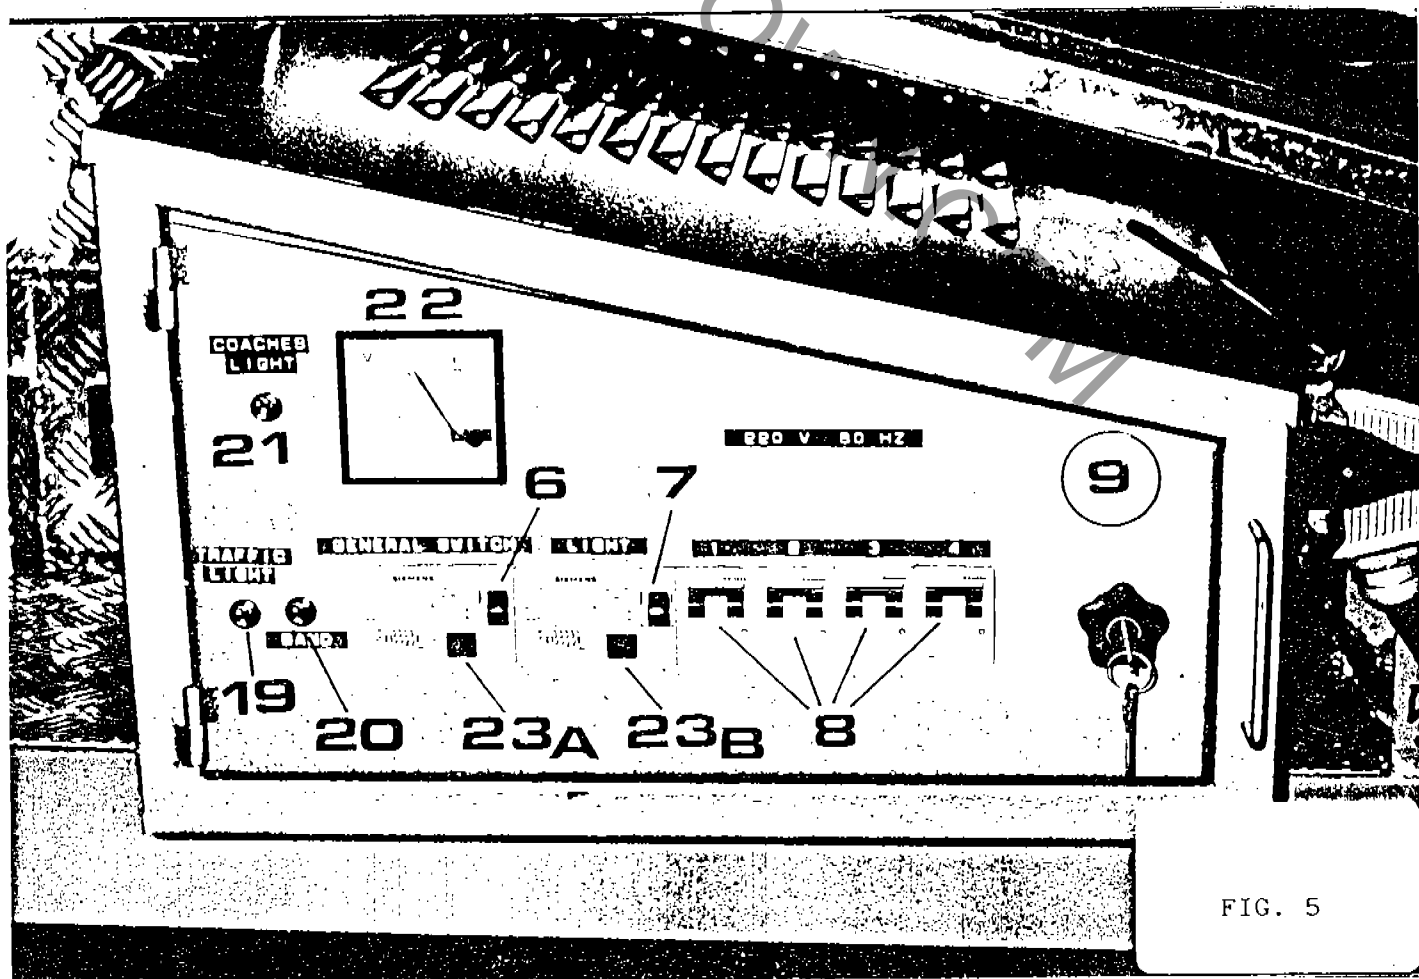
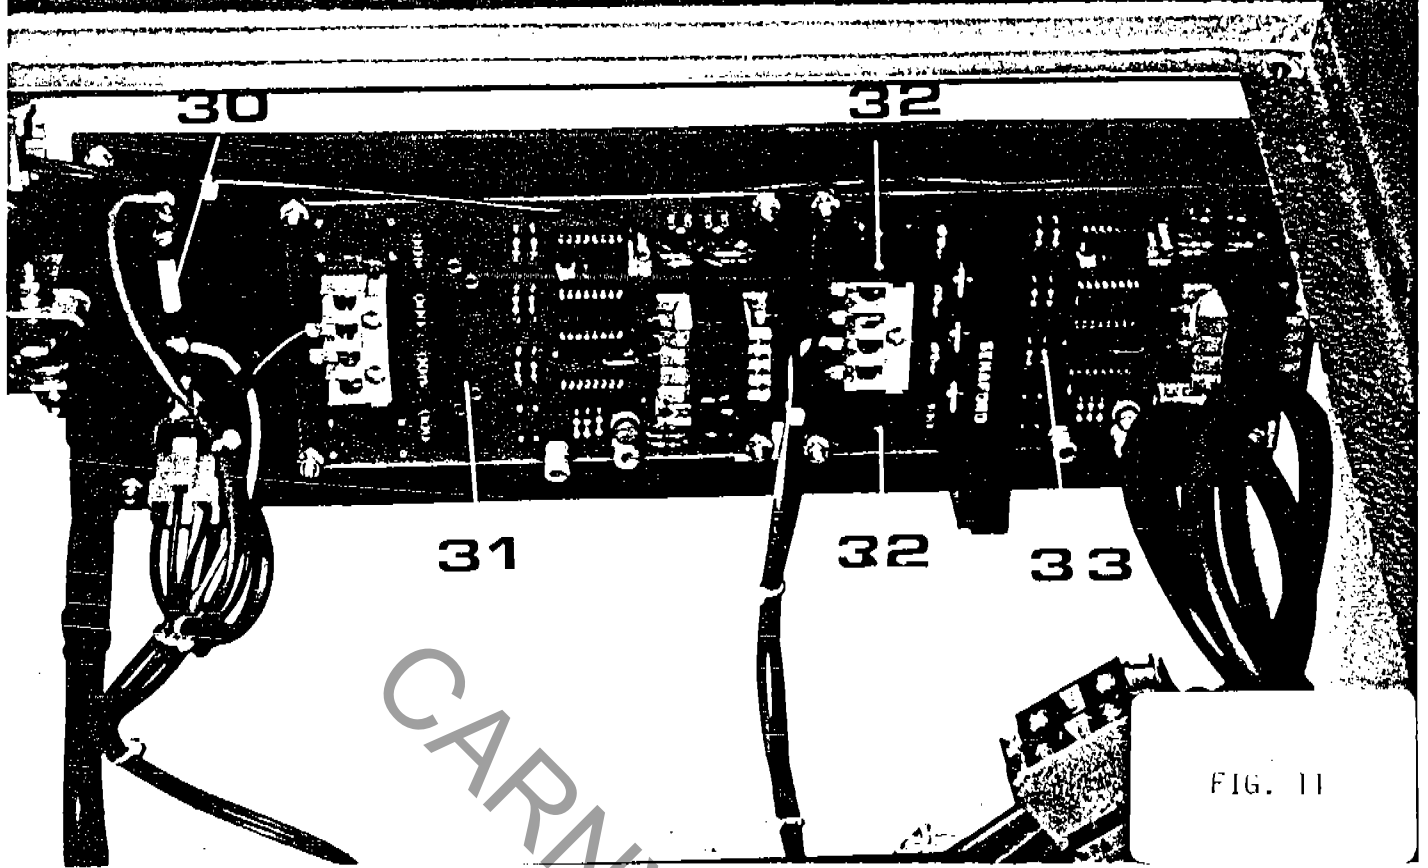

FIG. 5
FIG. 11
FIRST TURN THE DIFFERENTIAL SWITCH MOVING POWER (6) THE SINGLE PHASE DIFFERENTIAL SWITCH (7) AND THE THERMAL LINE SWITCHES (8) OF THE GENERAL CONTROL BOARD (9) ON (FIG. 5) THEN IT IS SUFFICIENT TO PUSH THE BUTTON "START" (10) ON THE CONTROL BOARD (11)(FIG. 6) TO START THE RIDE. TO STOP THE RIDE IT IS NECESSARY TO PUSH THE BUTTON "STOP" (12)(FIG. 6).
THERE ARE THREE SWITCHES (19-20-21) ON THE GENERAL CONTROL BOARD (9)(FIG. 5) TO EXCLUDE THE TRAFFIC-LIGHTS, THE VEHICLES LIGHT AND THE TRACK LIGHT. ON THE GENERAL CONTROL BOARD THERE IS ALSO A VOLTMETER (22)(FIG. 5) TO CONTROL THE FEEDING VOLTAGE.
TO COME TO A COMPLETE STOP OF THE RIDE, PRESS THE BUTTON "STOP" (12)(FIG. 6) PUSH THE LINE SWITCH DOWN (8)(FIG. 5), PRESS THE BUTTONS OF THE DIFFERENTIAL SWITCHES MOVING POWER (23A)(FIG. 5) AND THE ONE OF THE SINGLE PHASE SWITCH (23B) AND CAREFULLY LOCK THE BOXES OF THE GENERAL CONTROL BOARD (9)(FIG. 5) AND OF THE CONTROL BOARD (11)(FIG. 6)
IF THE VEHICLES DO NOT MOVE PUSHING THE "START" BUTTON (10)(FIG. 6) IF THE POWER VARIATIONS ( 19V 26V 39V) ON THE VOLTMETER (18)(FIG. 6) ARE NOT REGULAR OR IF THE GENERAL CONTROL BOARD (9)(FIG. 5) MAKES AN UNUSUAL BUZZING NOISE, CHECK THE CONTROL (24) AND THE POWER FUSES (25)(FIG. 7-8) ON THE GENERAL ELECTRIC BOARD (9)(FIG. 5).
TO ENTER INSIDE THE GENERAL CONTROL BOARD (9)(FIG. 5) REMOVE THE TRACK PANEL (26)(FIG. 9) UNCAP THE BOARD UNSCREWING THE FIXING SCREW (27)(FIG. 9) TAKE IT OUT, OPEN THE CAP (28)(FIG. 10) UNSCREWING THE FOUR SCREWS (29)(FIG. 10).
CHECK THE FUSES (30) OF THE ELECTRIC BOX (31-33)(FIG. 11) PLACED INSIDE THE GENERAL ELECTRIC BOARD (9)(FIG. 5). FURTHERMORE CHECK IF ANY BULBS IS NOT WORKING AND REPLACE IT IF NECESSARY.
CHECK THE FUSES (32) OF THE ELECTRIC BOX (33)(FIG. 11) PLACED INSIDE THE GENERAL ELECTRIC BOARD (9)(FIG. 5). FURTHERMORE CHECK IF ANY BULBS IS NOT WORKING AND REPLACE IT IF NECESSARY.